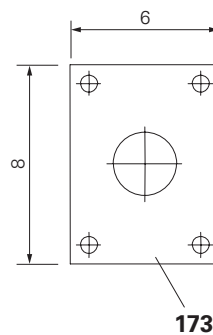

Fig. A3.20
1. Check the required space for the Anchor Positioning Plate M30 (**173**). Lateral spacings of 3 cm or 4 cm are required. (Fig. A3.20 + A3.21)